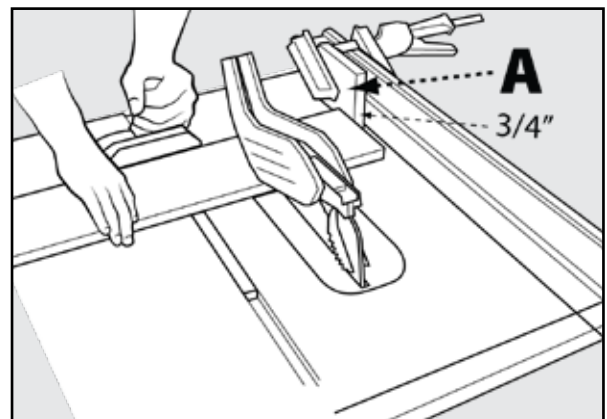

FIGURE 37
When crosscutting a number of pieces to the same length, you can clamp a block of wood (A) (See Figure 37) to the fence and use it as a cut-off gauge. The block (A) must be at least 3/4-inch (19 mm) thick to prevent the cut off piece from binding between the blade and the fence. Once the cut-off length is determined, lock the fence and use the miter gauge to feed the workpiece into the blade.